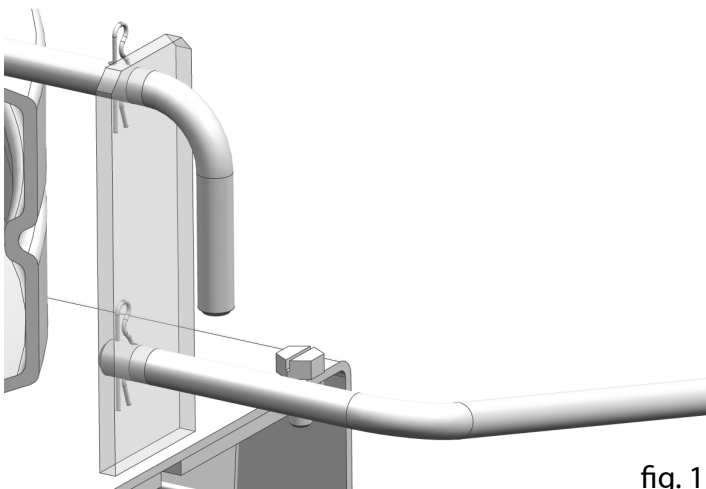

fig. 1
- Step 1: Secure long leveling rod D-5741 to spinner enclosure through bottom hole in bracket with hair pin clip through hole in pin (see fig 1)